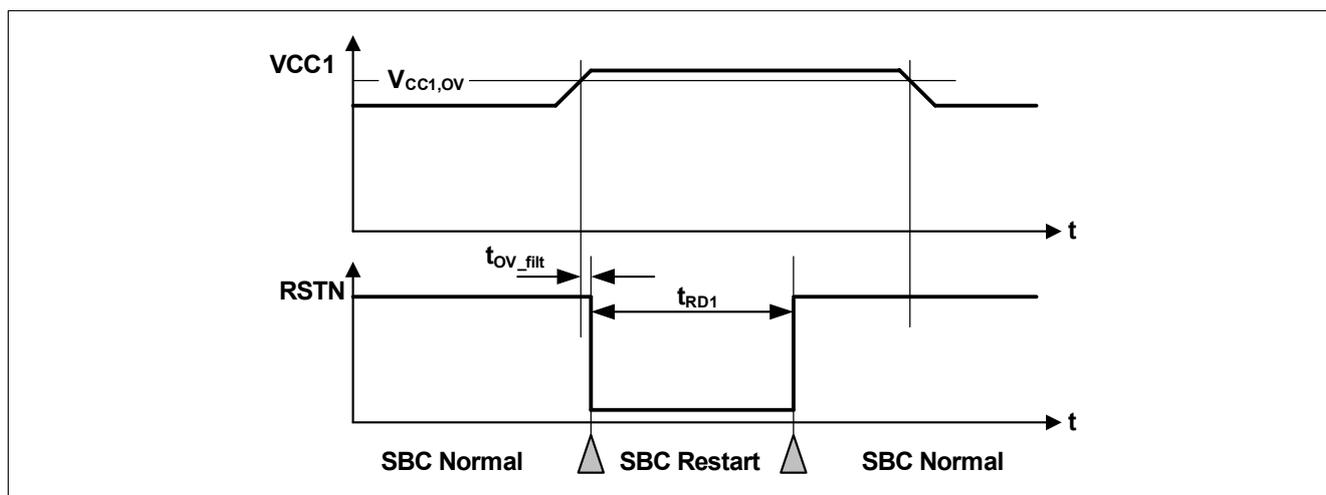

Figure 43 VCC1 Over Voltage Timing Diagram
- If the bit `VCC1_OV_RST` is set and `CFG0_STATE` = '1', then SBC Restart Mode is entered. The FO output is activated. After the reset delay time ( $t_{RD1}$ ), the SBC Restart Mode is left and SBC Normal Mode is resumed even if the VCC1 over voltage event is still present (see also Figure 43). The `VCC1_OV_RST` bit is cleared automatically;